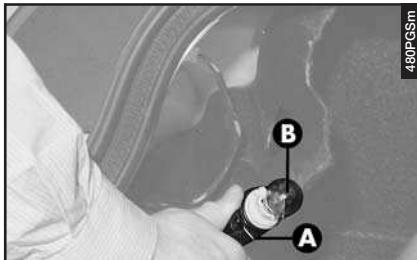

fig. 59
DIRECTION INDICATORS AND SIDE LIGHTS/STOP LIGHTS (fig. 59)
- Remove the bulb holder (**A**-**fig. 59**) turning counter-clockwise.